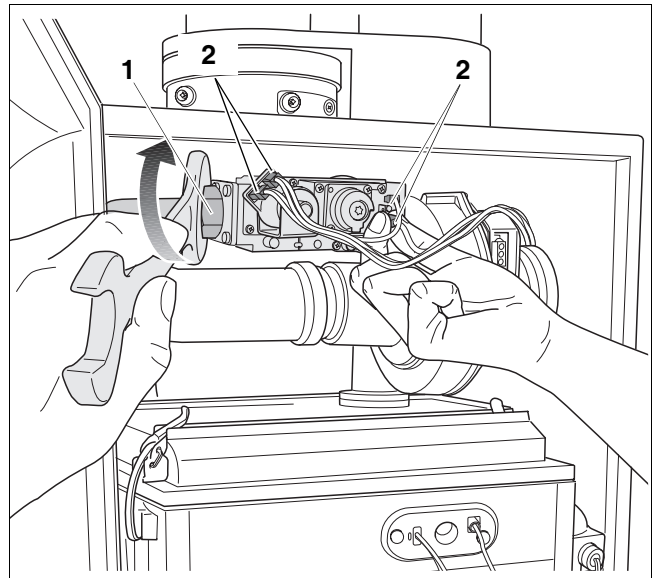

fig. 3 Undoing the connections to the gas valve
- Loosen the screw connection on the gas valve (fig. 3, **pos. 1**) and pull the plugs (fig. 3, **pos. 2**) from the gas valve.